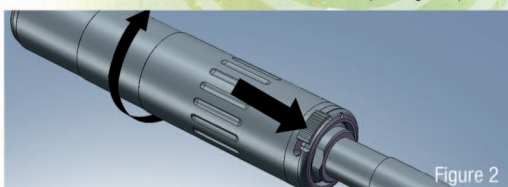

Figure 2
2) Depress the thumb latch (indicated by the arrow), and unscrew the silencer from the flash hider in the indicated direction (See Figure 2).